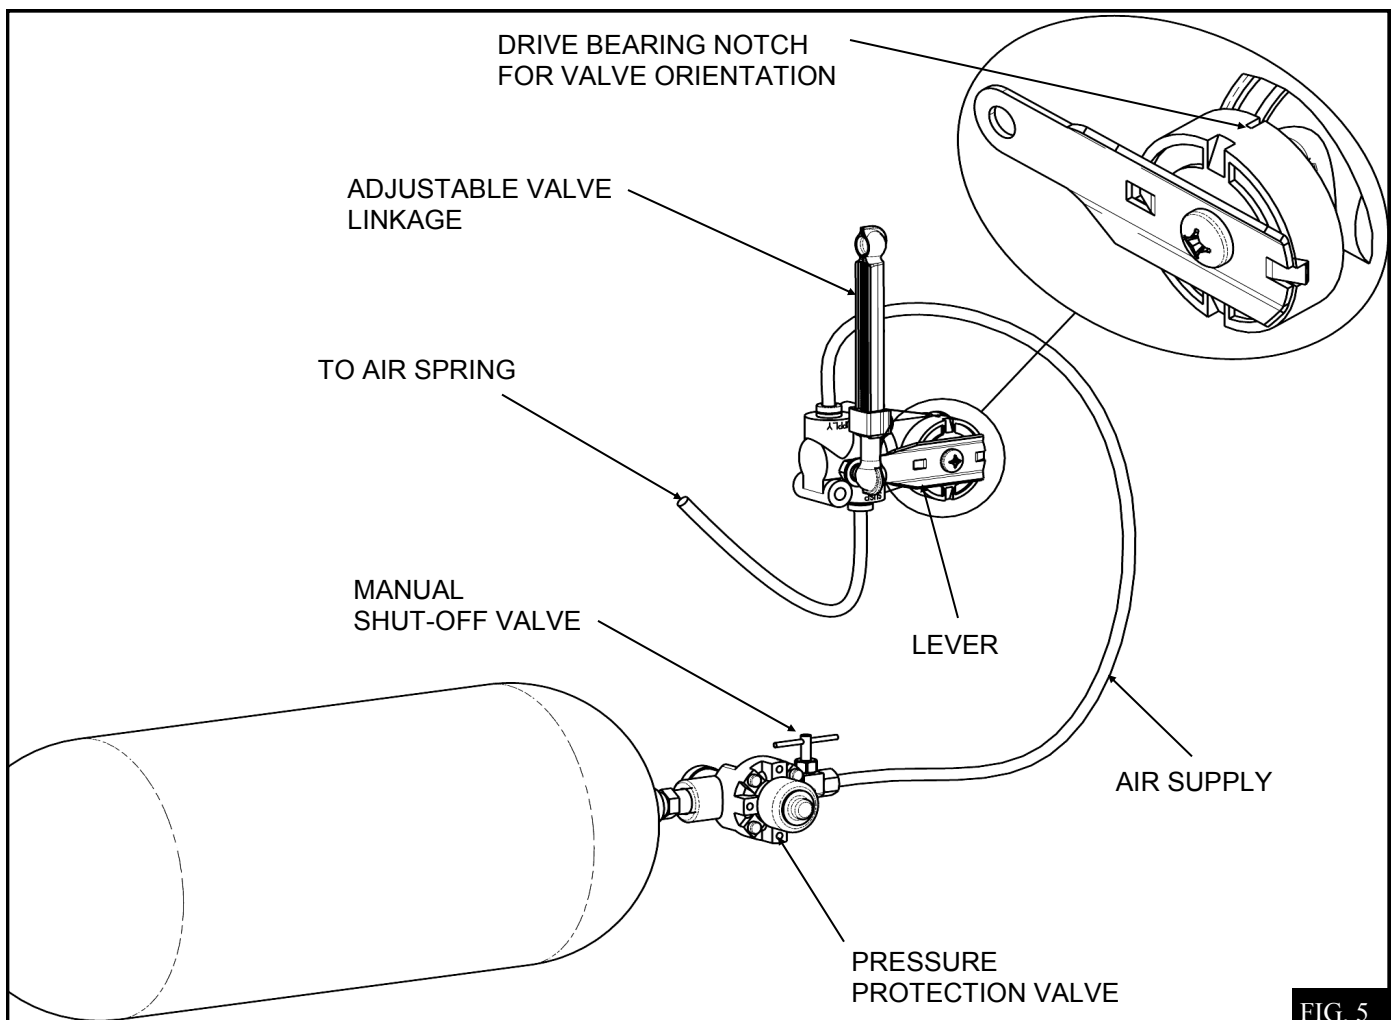

FIG. 5
5.4 Connection of Height Control Valve to Air Supply (Fig. 5):